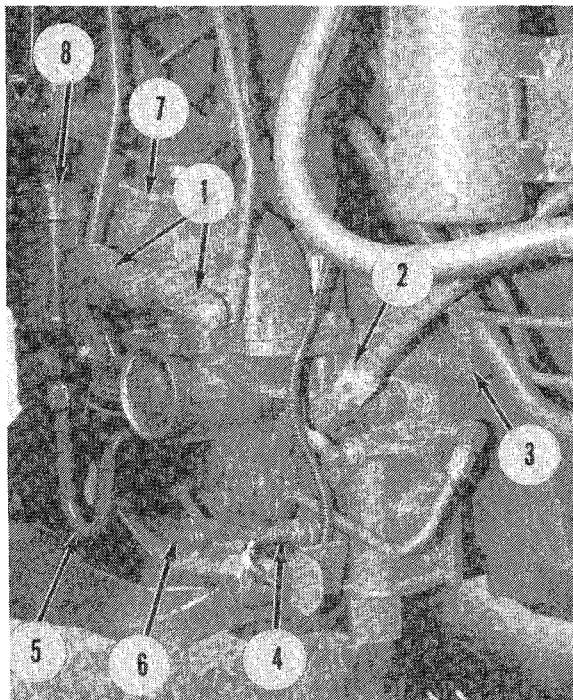

Fig. 149—Transmission control valve housing is mounted on right side of transmission case.
Two accumulators are used to ensure smooth shifting. The system accumulator (7—Fig. 149) ensures that there is no temporary pressure drops in the control circuit as the different clutch and brake packs are engaged and disengaged. The C3 clutch accumulator (8) slows down the disengagement of C3 clutch pack when changing from C3 clutch pack to B4 brake pack to ensure sufficient time for B4 engagement. This prevents possible hesitation when changing from C3 to B4.
To check the system accumulator (7—Fig. 149), drive the tractor and shift between the following speeds: F5 to F6, F6 to F5, F7 to F8 and F8 to F7. Shifts should be smooth if accumulator is properly charged. If shifting is erratic, disconnect accumulator hydraulic line at the transmission control valve and plug both openings. Repeat shifting sequence. If shifting becomes more erratic, accumulator is properly charged and the problem is elsewhere. If shifting is the same, the accumulator is under or over charged. Refer to paragraph 140 for charging procedure.
Operation of C3 accumulator (8—Fig. 149) can only be checked while operating tractor under a field load during a 7 to 8 upshift. If shift is erratic, disconnect accumulator hydraulic line from transmission control valve housing. Plug both openings, then repeat 7 to 8 upshift under load. If shifting becomes more erratic, accumulator is not the cause of the problem. If shifting is the same, accumulator is under or over charged. Refer to paragraph 140 for charging procedure.
130. TRANSMISSION CONTROL VALVE AND MODULATING VALVE. To remove valve housings, first drain oil from transmission housing. Disconnect control rods from housing arms (1—Fig. 149). Remove neutral start switch cover and disconnect wiring from switch (4). Disconnect hydraulic lines (2, 3 and 5). Remove mounting cap screws and withdraw control valve housing with accumulator. Unbolt and remove modulating valve housing (6).